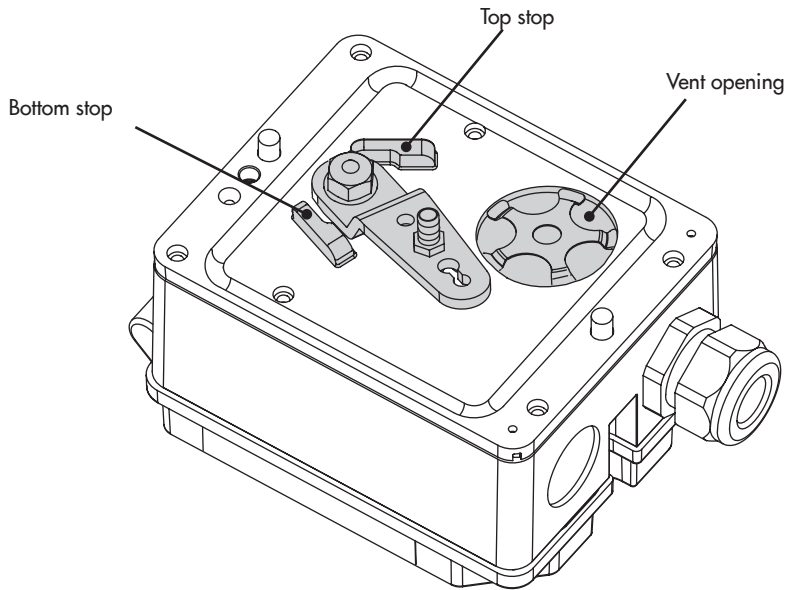

Fig. 4: Mechanical stops and vent opening
→ **Do not mount the positioner with the vent opening (Fig. 4) facing upward.**
1. Move the lever to the bottom mechanical stop (see Fig. 4) and hold it in place. Undo and remove the nut using a wrench (width across flats SW 10).